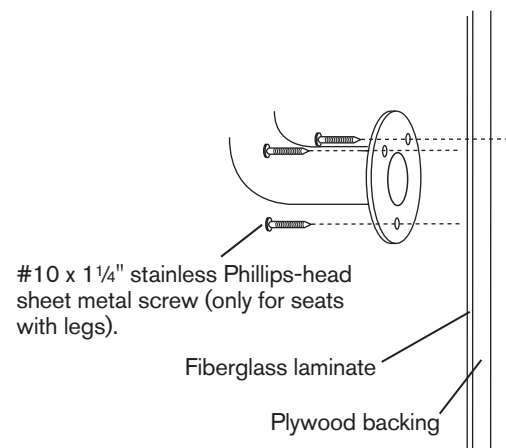

Figure 3
4. Install the seat/bar with the screws, making sure you can feel resistance from the plywood as the screws go in (Figure 3).